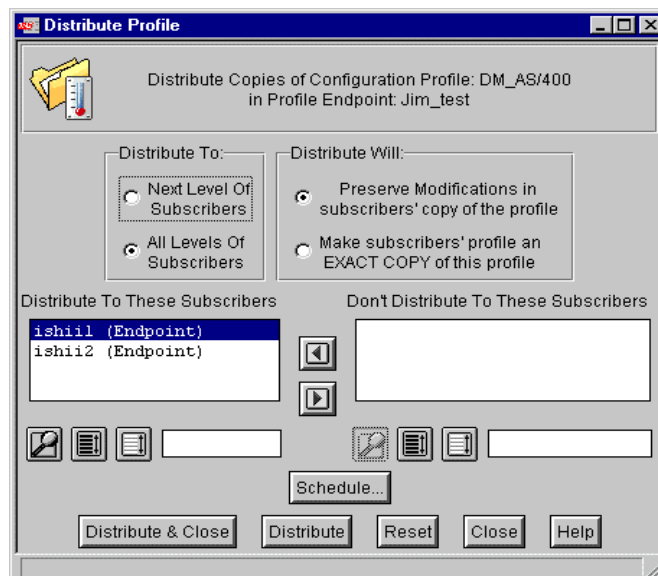

Figure 284. Distributing the DM_AS/400 profile
20. To distribute this new profile to both of our AS/400s, select the **Distribute** option from the Profile menu. The Distribute Profile screen will be displayed as shown in Figure 284.